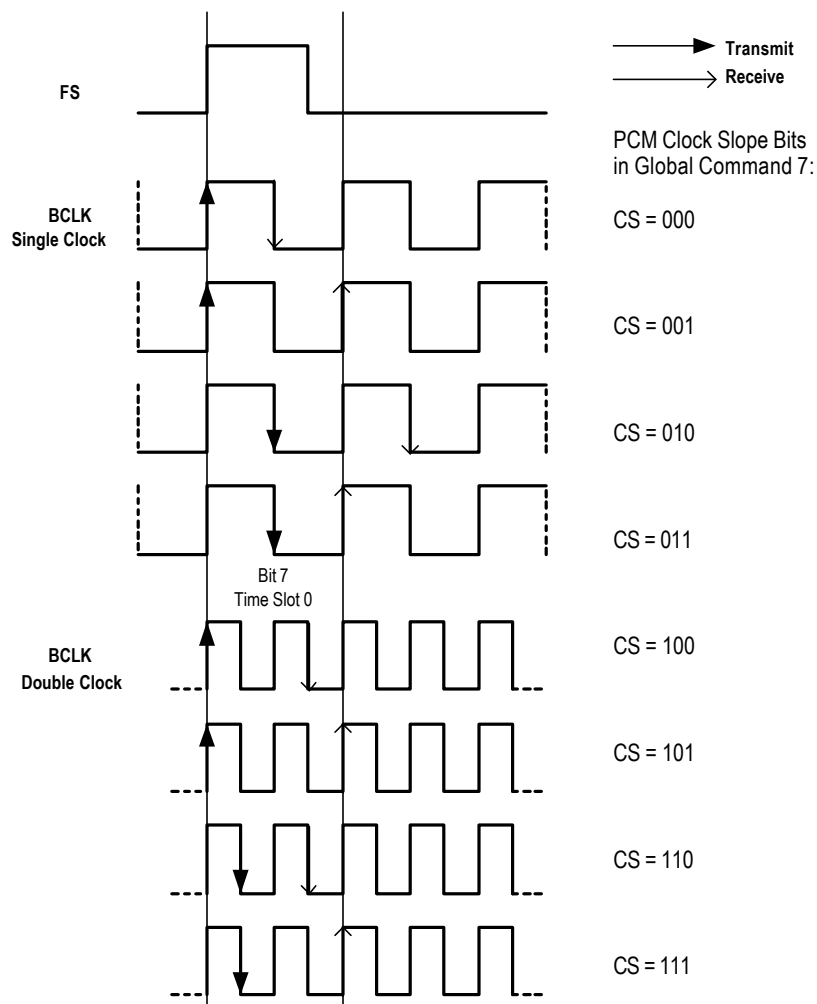

Figure 3. Sampling Edge Select Waveform
In MPI mode, IDT821068 provides two flexible PCM buses for all 8 channels. The digital PCM data can be compressed (A/μ-law) or linear format, which is determined by the DMS bit in Global Command 7. The data rate can be configured as same as Bit Clock (BCLK) or half of it. The data can be transmitted or received either on BCLK rising edges or on falling edges. The data transmit and receive time slots can be offset from Frame Synchronization (FS) by 0 BCLK period to 7 BCLK periods. See Figure 3. All the selections are implemented by Global Command 7, which is configured for all 8 channels.